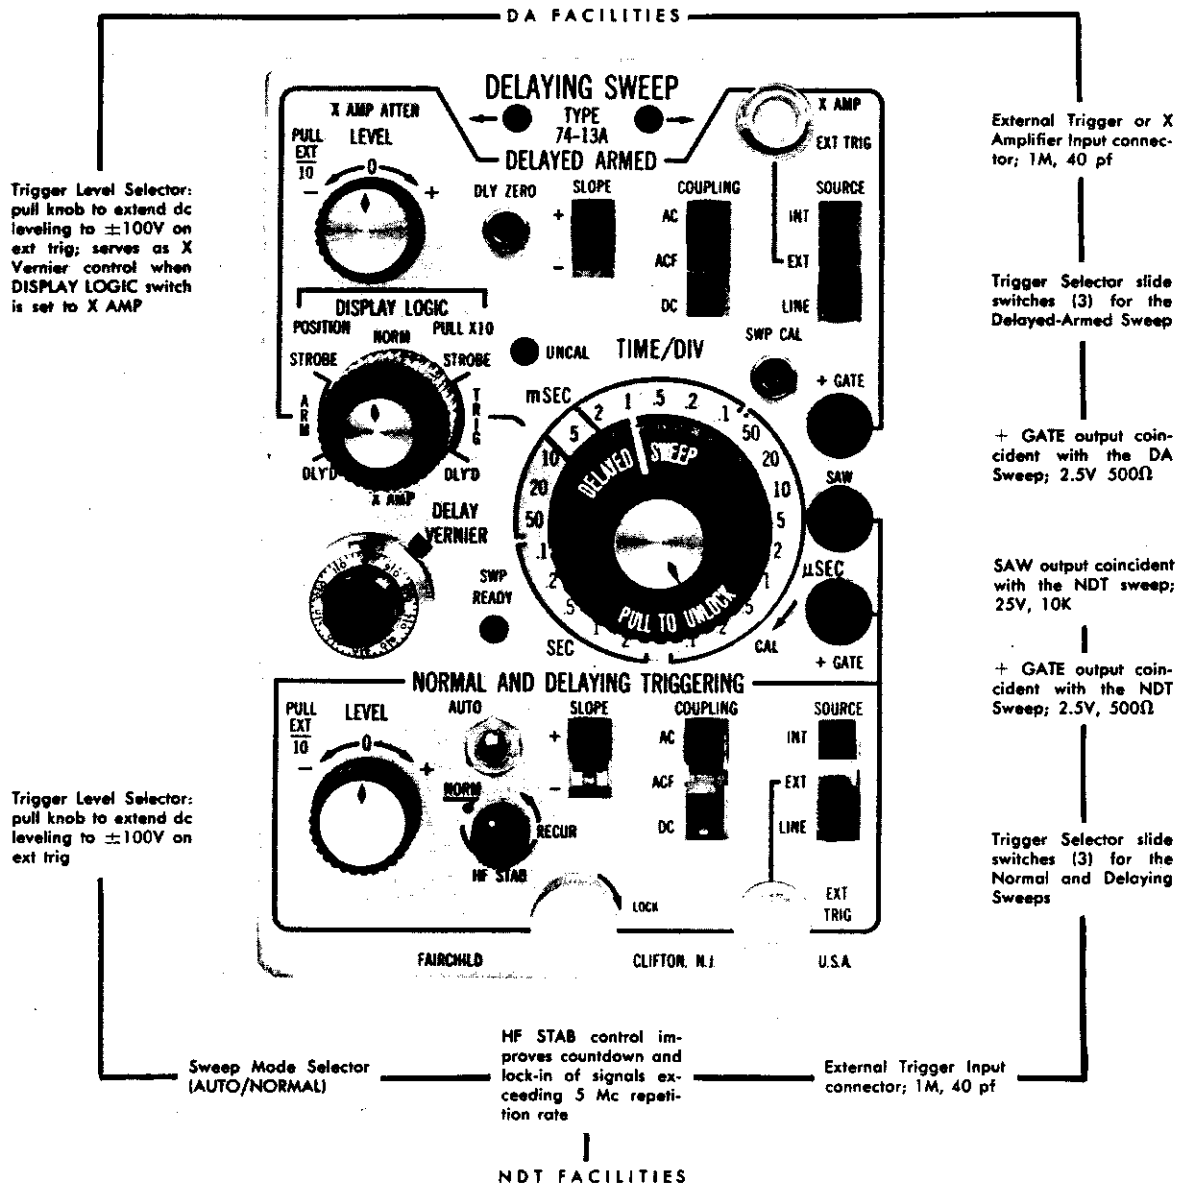

Figure 2-1a. Type 74-13A Function of Controls and Connectors
- Figures 2-1a & 2-1b Type 74-13A, Function of Controls and Connectors